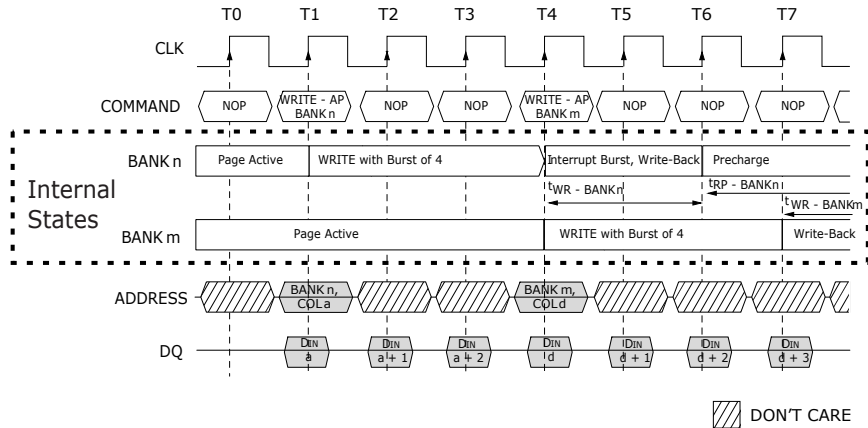

Figure 47.9. Write with Auto Precharge Interrupted by a Write
2. Interrupted by a Write (with or without auto precharge): When a Write to bank m registers, it will interrupt a Write on bank n . The precharge to bank n will begin after t_{WR} is met, where t_{WR} begins when the Write to bank m is registered. The last valid data Write to bank n will be data registered one clock prior to a Write to bank m (Figure 47.9).